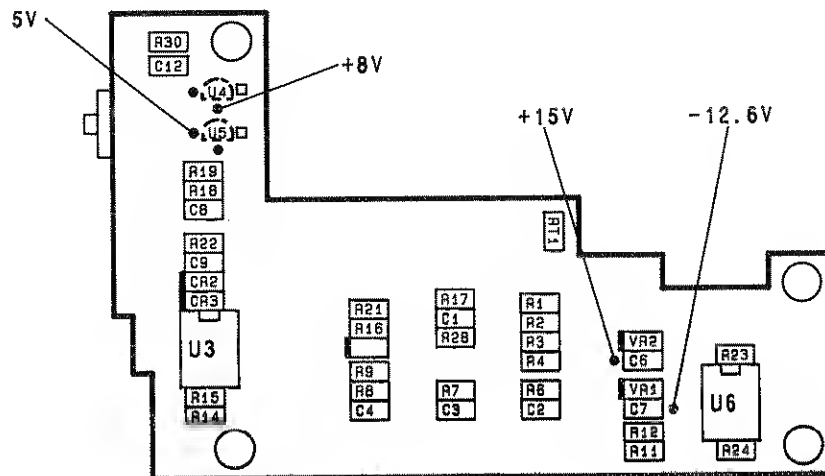

Figure 8-1. A2 Circuit Board Power Supply Check Points
2. Refer to Figure 8-1 and check the power supply voltages of +15, -12.6, +8 and -5 volts at the 4 pads indicated. Since the +15V and -12.6V are supplied by the analyzer, those voltages are specified in the analyzer's manual. The +8V should be $+8.3 \pm 0.3V$; -5V should be $-5 \pm 0.2V$.
3. Refer to Figure 8-1 and check the power supplies at the various components as indicated by malfunction.